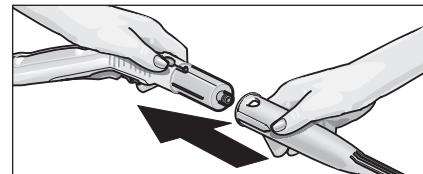

Figure 2: Attaching accessory to the steam gun
- Connect the desired accessory part (D1, E1, F1) with the steam gun (C1). Put the tubular end of the accessory part on the steam gun (C1). Then, push the accessory part onto the steam gun until the unlocking button (C2) of the steam gun locks into place (see Figure 2).